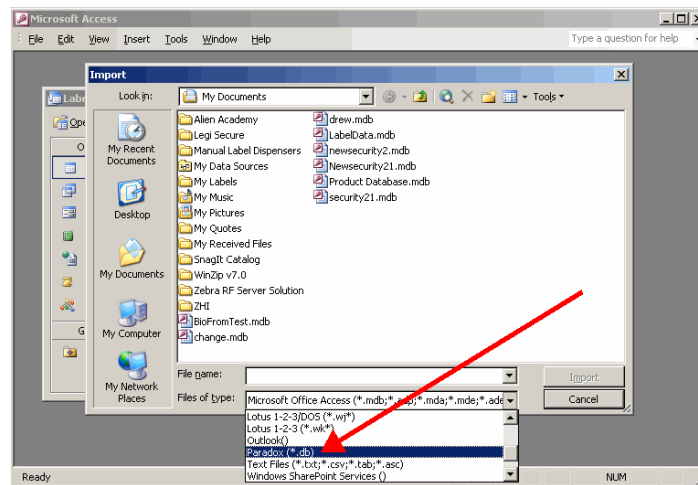

Figure 2-6
2.3.2. Browse to the location of your existing databases and choose the *Paradox (*.db)* option in the *File of type* box. (Figure 2-6)